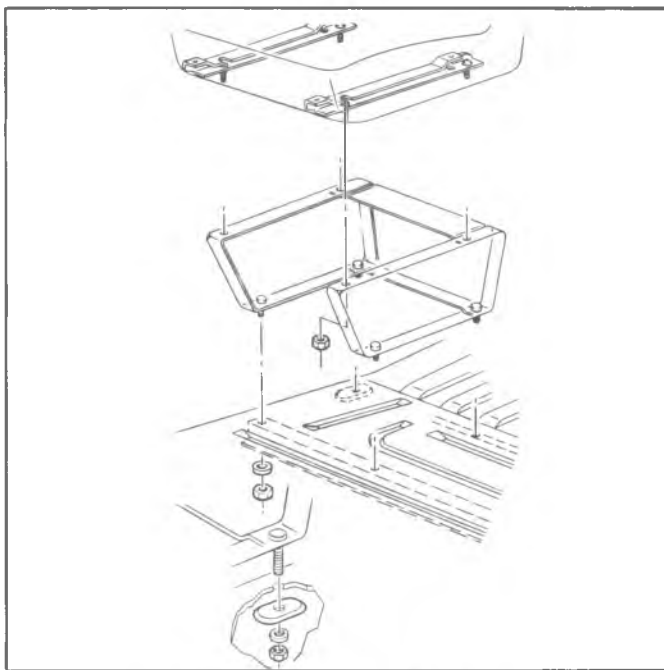

Fig. 36G—Passenger Seat
1. Remove seat and brackets from seat riser. See figure 36G.